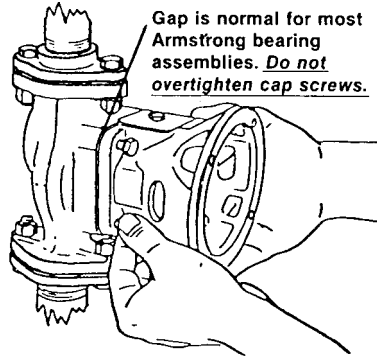

FIG 5. Installing bearing assembly to body
- 7 With new gasket in place, fit Seal Bearing Assembly / Impeller kit into pump body and tighten body cap screws (**FIG. 5**).
- 8 Connect coupler to shaft of bearing assembly by placing thumb of one hand behind coupler-half to be attached and sliding it onto shaft, using care to line up set screw with recess in shaft. Securely tighten set screw in recess and attach motor assembly to bearing assembly with 4 cap screws. In case of couplers with 2 set screws, tighten one in recess and one snug on shaft (**FIG. 5**).